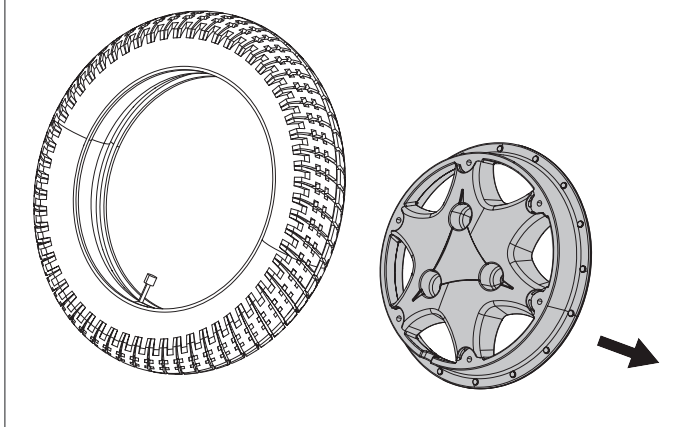

Fig. 8.8
- Carefully feed the tube out of the tyre, (Fig.8.8).